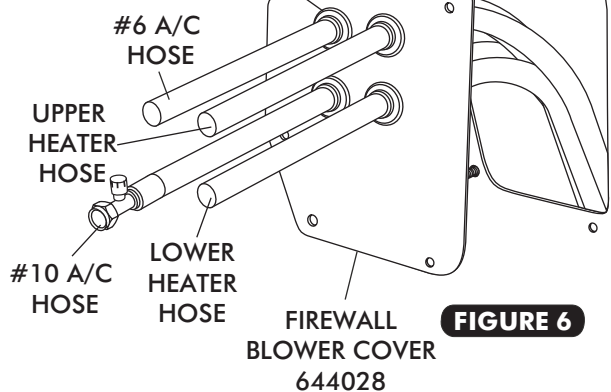

FIGURE 6
- ☐ ROUTE A/C AND HEATER HOSE THROUGH FIREWALL BLOWER COVER AND KICK PANEL COVER AS SHOWN IN FIGURE 6 AND 6b, BELOW.